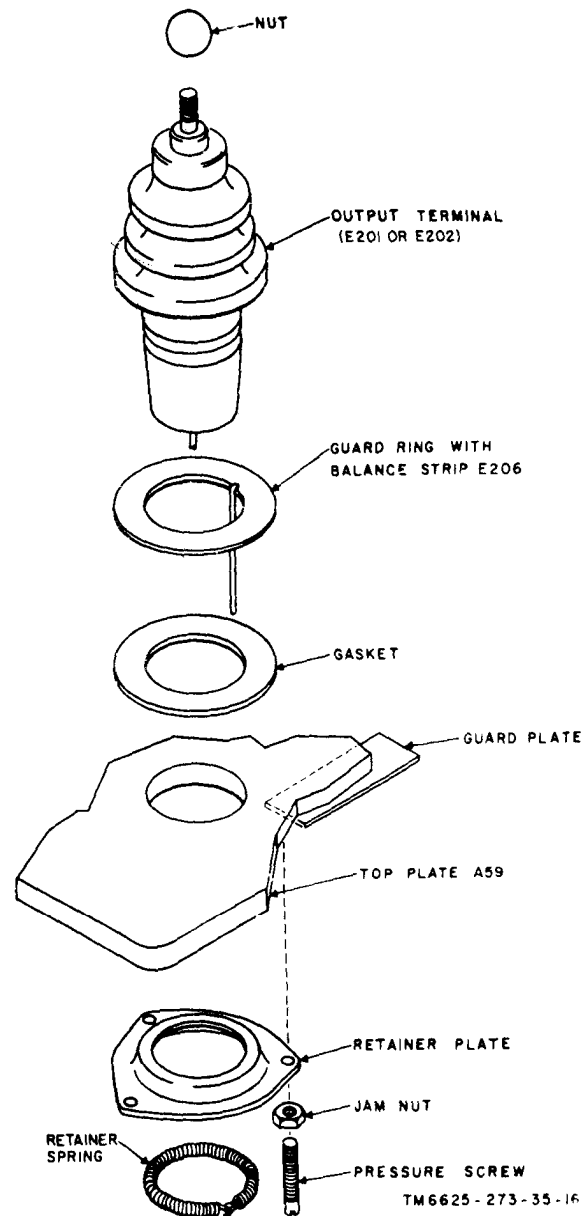

Figure 11. Output terminal (E201 or E202)—exploded view.
Output terminals E201 and E202 (fig. 11) are identical and are similarly mounted. The following procedures apply to both output terminals.
- (4) Loosen the jamnuts (fig. 11) on the pressure screws to decrease the tension on the output terminal.
- (5) Lift up on the retainer plate and remove the retainer spring; lower and remove the retainer plate.
- (6) Lift the output terminal out of the top plate.
Note. The guard ring is connected to guard terminal H10 (fig. 3) through the balance strip (fig. 11). The balance strip is soldered to the guard ring, passes down through the hole in the top plate, and is soldered to the guard plate. If it becomes necessary to replace the guard ring or gasket, the balance strip must be unsoldered from the guard plate.